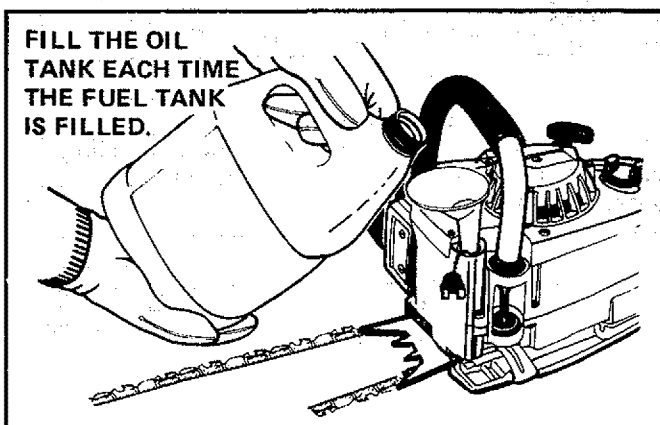

Figure 12
- Turn saw on its side with oil cap up. Figure 12.